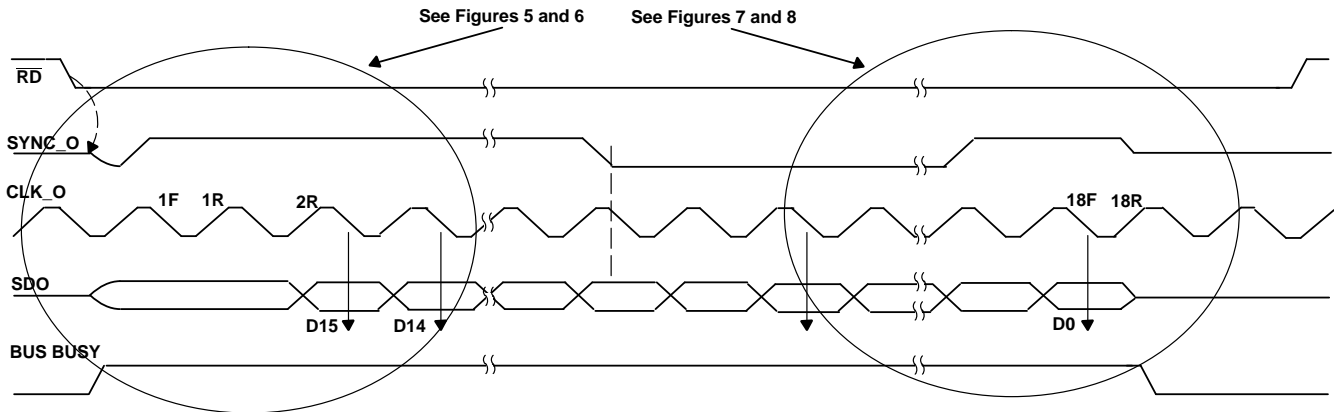
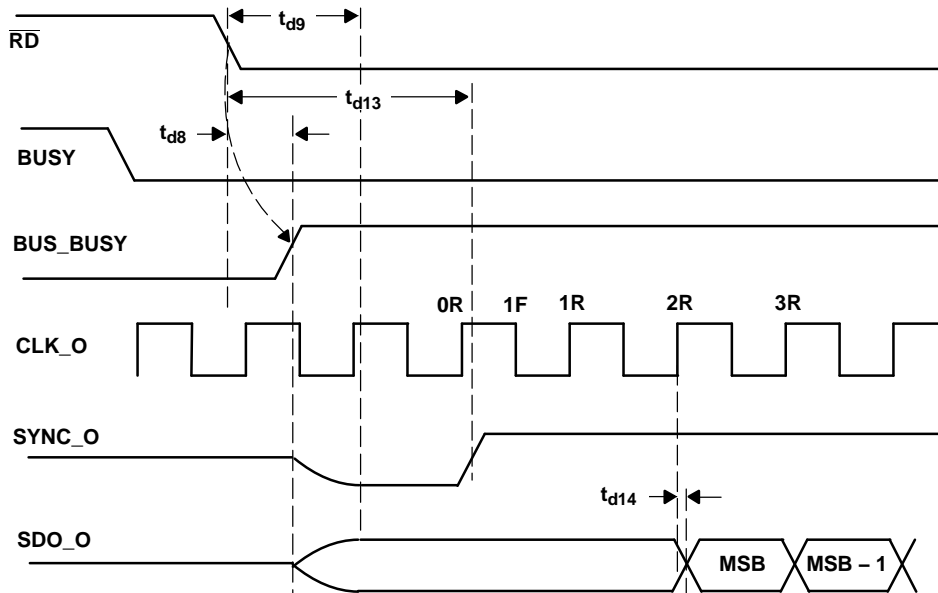
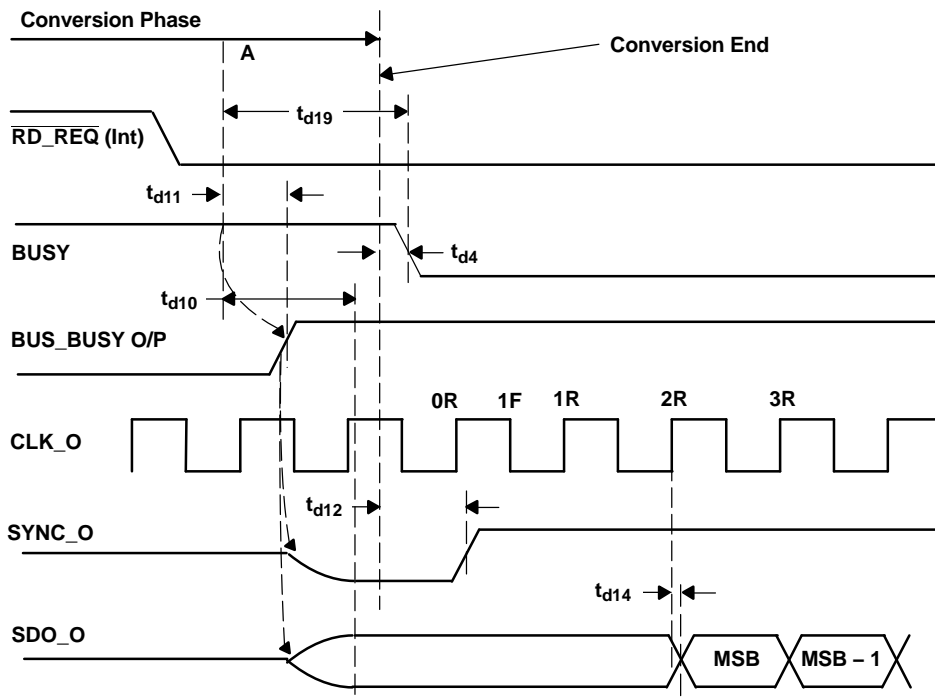
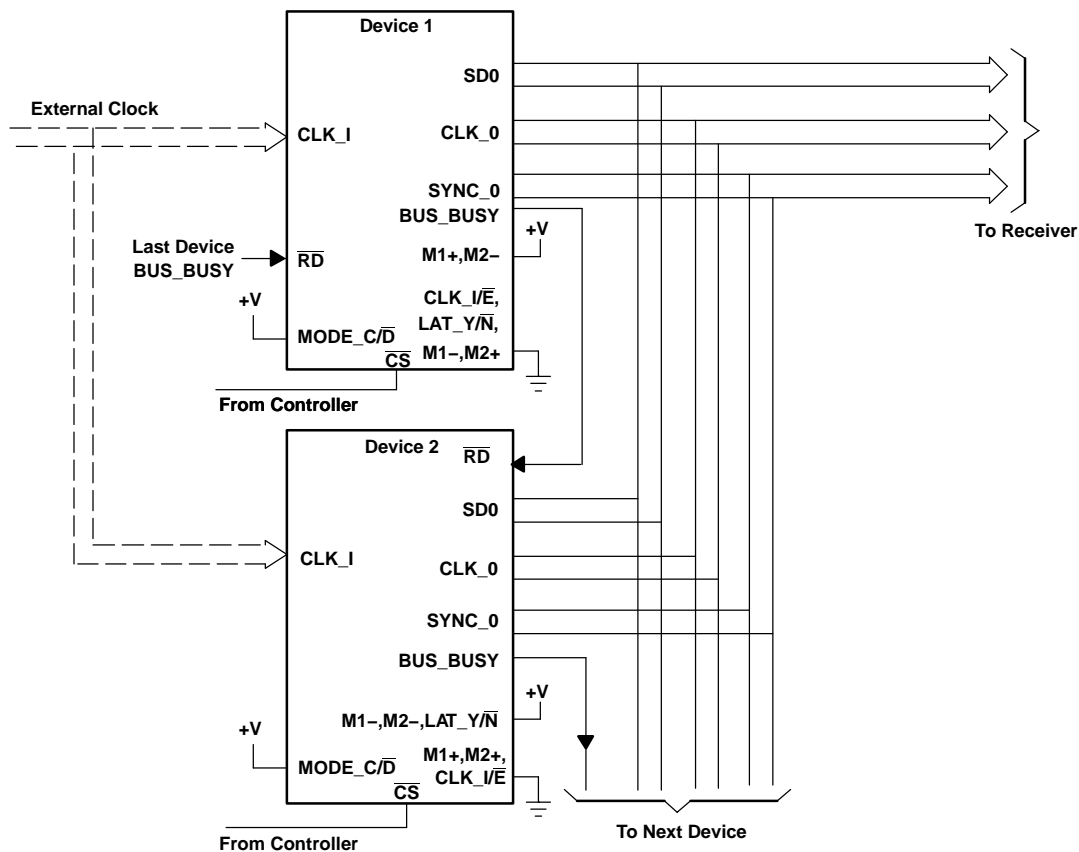

Figure 3. Data Read With  $\overline{CS}$  Low and BYTE = 0
Figure 5. Start of Data Read Cycle with  $\overline{RD}$  with  $\overline{CS}$  Low and Device in Wait or Sample Phase
Figure 6. Start of Data Read Cycle with End of Conversion
Figure 13. Cascade Connection
| Single device                   | 1  | 1 or 0  | 0       | +VBDor M1 = 1 LVDS | AGND                   | AGNDor M2 = 0 LVDS | +VBD                                  | Recommended configuration  | 1 or 2                      | See Figures 3,4 and 5,6,8 for more details   |
| Multiple devices in daisy chain | 1st Device                               | 0       | 1 or 0  | 0                      | See comments           | See comments           |                                       | Set SYNC_I and SDI to logic 0 or + terminal to AGND and –ve terminal to +VBD | 1 or 2                      | See Figures 3,4,11 and 6,12 for more details |
| Multiple devices in cascade     | 1st Device                               | 1       | 0       | 0                      | +VBDor M1 = 1 LVDS | AGND                   | AGNDor M2 = 0 LVDS (1) | Maximum 3 devices supported at 2 MSPS  | 1 or 2                      | See Figures 3,4,14 and 6,15 for more details |
For a single device, there are two possible read cycle starts: a data read cycle start during a wait or sample phase or a data read cycle start at the end of a conversion phase. Read cycle end conditions can change depending on MODE C/D selection. Figure 3 explains the data read cycle. The details of a read frame start with the two previous listed conditions and a read cycle end with MODE C/D selection are explained in Figure 5 and Figure 6 and Figure 7 and Figure 8, respectively.
As shown in Figure 3, a new data read cycle is initiated with the falling edge of  $\overline{RD}$ , if  $\overline{CS}$  is low and the device is in a wait or sample phase. The device releases the LVDS o/p (SYNC\_O, SDO) from 3-state and sets BUS\_BUSY high at the start of the read cycle. The SYNC\_O cycle is 16 clocks wide (rising edge to rising edge) if BYTE i/p is held low and can be used to synchronize a data frame. The clock count begins with the first CLK\_O falling edge after a SYNC\_O rising edge. The MSB is latched out on the second rising edge (2R) and each subsequent data bit is latched out on the rising edge of the clock. The receiver can shift data bits on the falling edges of the clock. The next rising edge of SYNC\_O coincides with the 16th rising edge of the clock. D0 is latched out on the 17th rising edge of the clock. The receiver can latch the de-serialized 16-bit word on the 18th rising edge (18R, or the second rising edge after a SYNC\_O rising edge).
Similar to Figure 3, a new data read cycle is initiated with the falling edge of  $\overline{RD}$ , if  $\overline{CS}$  is low and device is in a wait or sample phase. The device releases the LVDS o/p (SYNC\_O, SDO) from 3-state and sets BUS\_BUSY high at the start of the read cycle. The SYNC\_O cycle is 8 clocks wide (rising edge to rising edge) if BYTE i/p is held high and can be used to synchronize a data frame. The clock count begins with the first CLK\_O falling edge after a SYNC\_O rising edge. The MSB is latched out on the second rising edge (2R) and each subsequent data bit is latched out on the rising edge of the clock. The receiver can shift data bits on the falling edges of clock. The next rising edge of SYNC\_O coincides with the 8th rising edge of the clock. D8 is latched out on the 9th rising edge of the clock. The receiver can latch the de-serialized higher byte on the 10th rising edge (10R, or second rising edge after a SYNC\_O rising edge). The de-serialized lower byte can be latched on the 18th rising edge (18R).
As shown in Figure 5, the falling edge of  $\overline{RD}$ , with  $\overline{CS}$  low and the device is in a wait or sample phase, triggers the start of a read cycle. The cycle starts when BUS\_BUSY goes high and SYNC\_O, SDO are released from 3-state. SYNC\_O is low at the start and rises to a high level  $t_{d13}$  ns after the falling edge of  $\overline{RD}$ . As shown in Figure 5, the MSB is shifted on the 2nd rising edge of the clock (2R). Other details about the data read cycle are discussed in the previous section (see Figure 3).
This mode is optimized for a data read immediately after the end of a conversion phase and ensures the data read is complete before the sample end while running at 2 MSPS. Point A in Figure 6 indicates 'pre\_conversion\_end'; it occurs  $t_{d19}$  ns before the falling edge of BUSY or  $[(t_{d2} + t_{cnv} + t_{d4}) - t_{d19}]$  ns after the falling edge of  $\overline{CONVST}$ . A read cycle is initiated at point A if  $\overline{RD}$  is issued before point A while  $\overline{CS}$  is low. Alternately,  $\overline{RD}$  and  $\overline{CS}$  can be held low. At the start of the read cycle, BUS\_BUSY rises to a high level and the LVDS outputs are released from 3-state. The rising edge of SYNC\_O occurs  $t_{d12}$  ns after the conversion end. As shown in Figure 6, the MSB is shifted on the 2nd rising edge of the clock (2R). Other details about the data read cycle are discussed in the previous section (see Figure 3).
A data read cycle ends after all 16 bits have been serially latched out. Figure 7 shows the timing of the falling edge of BUS\_BUSY and the rising edge of SYNC\_O with respect to SDO. SYNC\_O rises on the 16th rising edge of CLK\_O. As shown in Figure 5 and Figure 6, the MSB is shifted out on the 2nd rising edge of CLK\_O. Therefore, the LSB-1 is shifted out on the 16th rising edge of CLK\_O.
A data read cycle ends after all 16 bits have been serially latched out. Figure 8 shows the timing of the falling edge of BUS\_BUSY and the rising edge of SYNC\_O with respect to SDO. SYNC\_O rises on the 16th rising edge of CLK\_O. As shown in Figure 5 and Figure 6, the MSB is shifted out on the 2nd rising edge of CLK\_O. Therefore, the LSB-1 is shifted out on the 16th rising edge of CLK\_O.
$\overline{\text{CS}}$  going high during the data read cycle of any device 3-states its SYNC\_O and SDO. This halts the propagation of data through the chain. To reset this condition it is necessary to assert  $\overline{\text{CS}}$  high for all devices. The new read sequence starts only after  $\overline{\text{CS}}$  for all devices is low before point A as shown in Figure 6. The high pulse on  $\overline{\text{CS}}$  must be at least 20 ns wide. It is better to connect  $\overline{\text{CS}}$  of all of the devices together to avoid undesired halting of the daisy chain.
Figure 13 shows the cascade connection. The signals shown with double lines are LVDS and the others are CMOS. Cascade mode is selected by setting  $MODE_{C/\bar{D}} = 1$ . Similar to daisy chain, the first device in the chain is identified by selecting  $LAT_{Y/\bar{N}} = 0$ . For all other devices in the chain  $LAT_{Y/\bar{N}} = 1$ . See Table 1 for more details on device configuration. SDO, CLK\_O, and SYNC\_O are connected to the common bus. This means only one device occupies the bus at a time, while LVDS drivers for all other devices 3-state. Unlike SDO and SYNC\_O, the clock cannot be switched out from device to device as the receiver requires a continuous clock. So only device 1 outputs the clock and CLK\_O of all other devices is 3-stated by appropriately setting M1+ and M1- as listed in Table 1.
Device 1 BUS\_BUSY goes low after it outputs its data, at this time SDO and SYNC\_O for device 1 go to 3-state. The falling edge of BUS\_BUSY ( $\overline{\text{RD}}$  of the next device) indicates to the next device that it is its turn to output the data. The next device outputs the data from the last completed conversion. BUS\_BUSY of the last device goes low and its SYNC\_O and SDO go to 3-state after it outputs its data. BUS\_BUSY of the last device is fed back to  $\overline{\text{RD}}$  of the first device as shown in Figure 13 ( $\overline{\text{RD}}$  can also be tied to 0 for device 1). This ensures that  $\overline{\text{RD}}$  of device 1 is low before its conversion is over. The data read sequence continues with only one external signal,  $\overline{\text{CONVST}}$  or  $\overline{\text{CSTART}}$ , when  $\overline{\text{CS}} = 0$ . For any device,  $\overline{\text{CS}}$  high during the data read cycle 3-states SYNC\_O and SDO of the device and halts the data read sequence. To reset this condition it is necessary to assert  $\overline{\text{CS}}$  high for all of the devices. The new read sequence starts only after  $\overline{\text{CS}}$  for all of the devices is low before point A as shown in Figure 6. The high pulse on  $\overline{\text{CS}}$  must be at least 20 ns wide. It is better to connect  $\overline{\text{CS}}$  for all of the devices together to avoid undesired halting of the data read sequence.